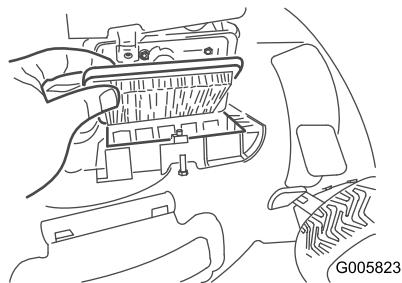

Figure 41
- Replace the air filter (Figure 41).